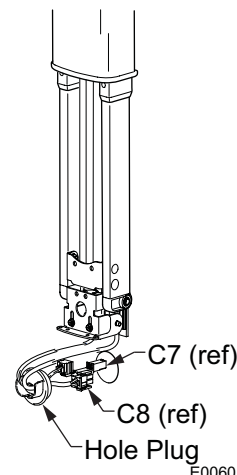

**Figure 4. General Layout and Installation.**
6. (Refer to Figure 4) Align the bottom mounting hole in the motorized arm with the pilot hole drilled in step 2. The arm assembly must be perpendicular to the awning rail.
8. Confirm that the arm is perpendicular to the awning rail, attach the arm at the second bottom mounting point (shown in Figure 4) using a  $5/32"$  drill bit and a  $1/4 \times 1\ 1/2"$  lag screw.
11. Check the alignment; the arm assembly must be perpendicular to the roller assembly. When the alignment is correct, drill and attach the arm at the second bottom mounting hole (shown in Figure 4) using a  $5/32"$  drill bit and a  $1/4 \times 1\ 1/2"$  lag screw.